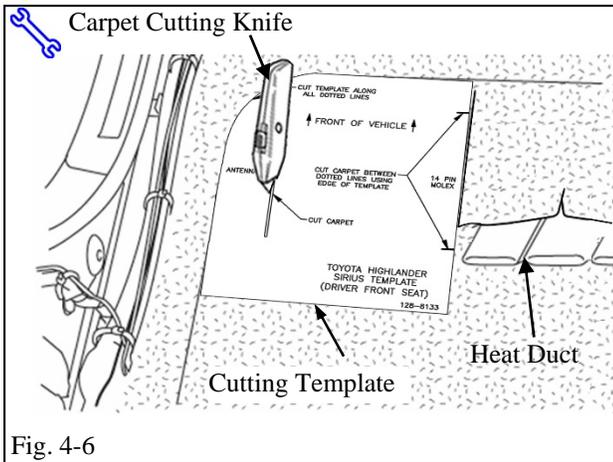

Fig. 4-6
- (i) Following directions on the cutting template place the template onto the carpet between the heat duct and the outside edge of the floor carpet as shown. (Fig. 4-6)
- (j) Hold the template down and cut the carpet on as indicated on the cutting template using a carpet cutting knife. (Fig. 4-6)
- (1) Make sure there are no wires under the carpet where the cuts will be made.
- (2) Make sure the carpet is cut all the way through to the floor the full length of the cut lines.